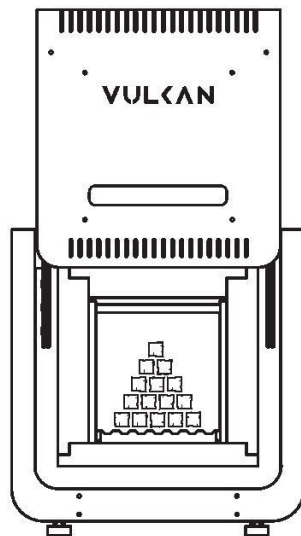

Fig. 1
7.1 Open the door and load charcoal into the working chamber in a heap - by hand or with a shovel (Fig. 1). The oven can be loaded with up to 2 kg of coconut charcoal. Recommended load: 1.5 kg.